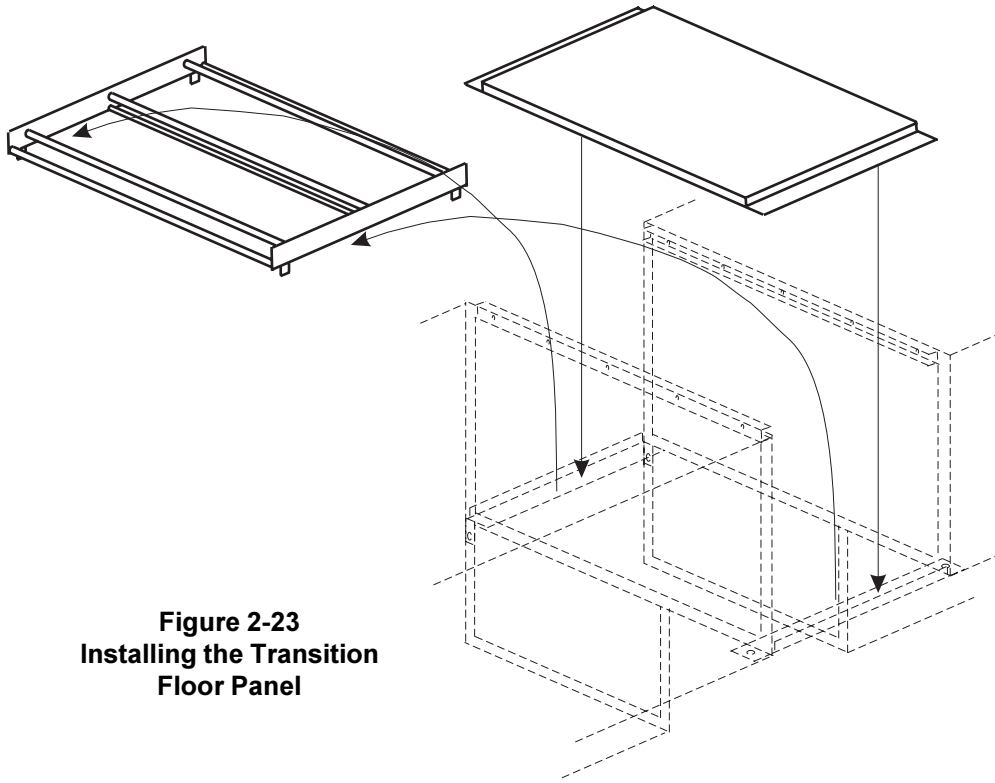

Figure 2-23
10. Remove the transition section of the conveyor frame. Place the transition floor panel into place atop the support brackets. See Figure 2-23.